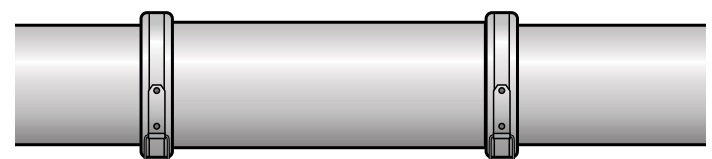

FIG. 25g
- Use a Clamp to connect the rolled edge of the Sleeve and the O-Ring together [FIG. 25g]. Once in place, you can re-adjust the length of the assembly by releasing the clamp and changing the length of the pipe that is inserted into the Adjustable Sleeve.